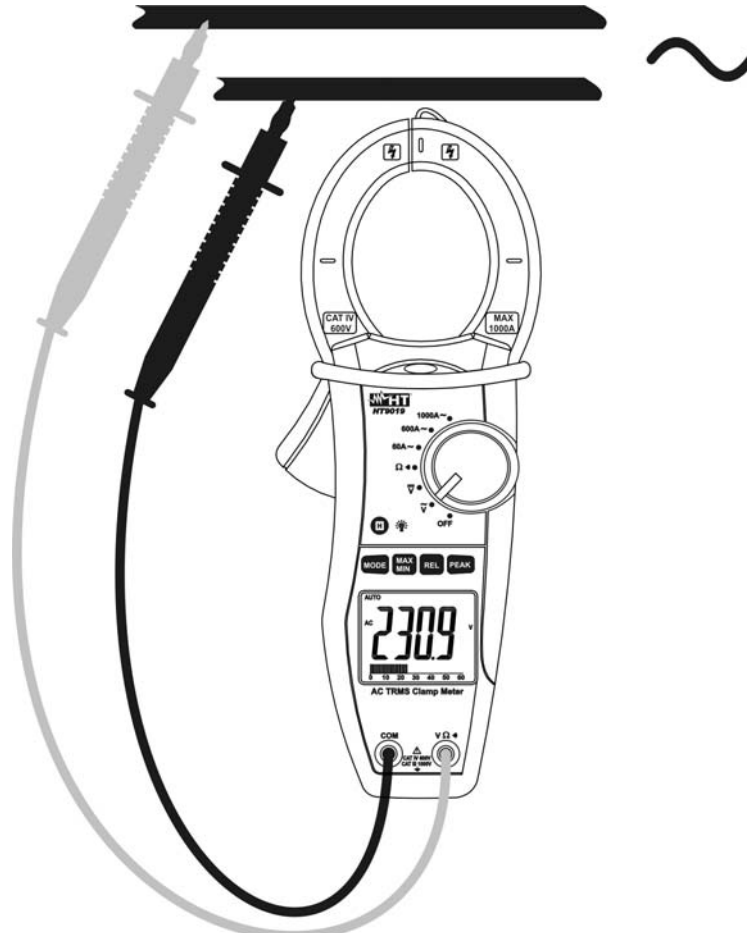

Fig. 3: Taking AC voltage measurements
2. Insert the red test lead plug into $V\Omega$ jack and the black test lead plug into COM jack (Fig. 3)